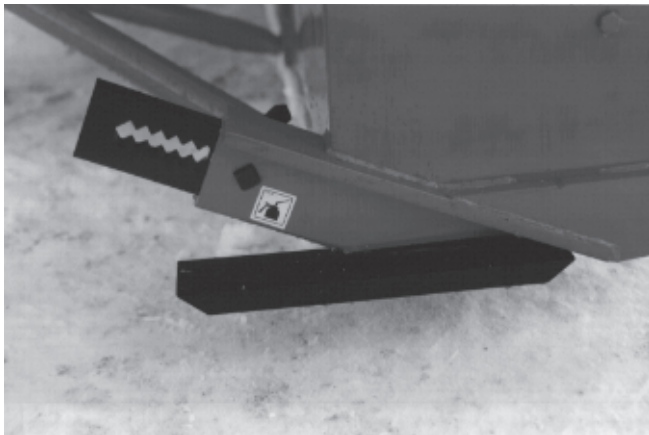

Figure 36
- 5) Adjust skid shoes according to ground conditions (Fig. 36).